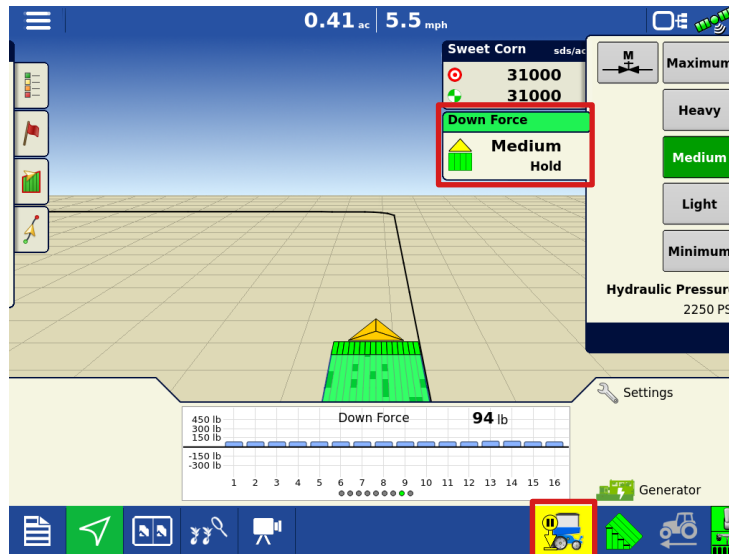

Figure 3 – Show current downforce mode & signal users when the system is in a hold state
- **ENHANCED:** Notifying when downforce is in a hold state (Figure 3) (SureForce®)